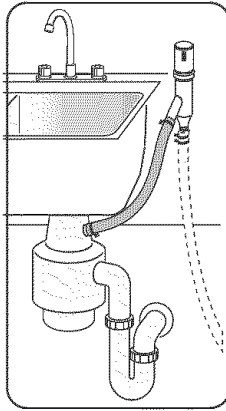

Figure 25
- 4) To a disposer dishwasher drain connection through an air gap, as shown on Figure 25.